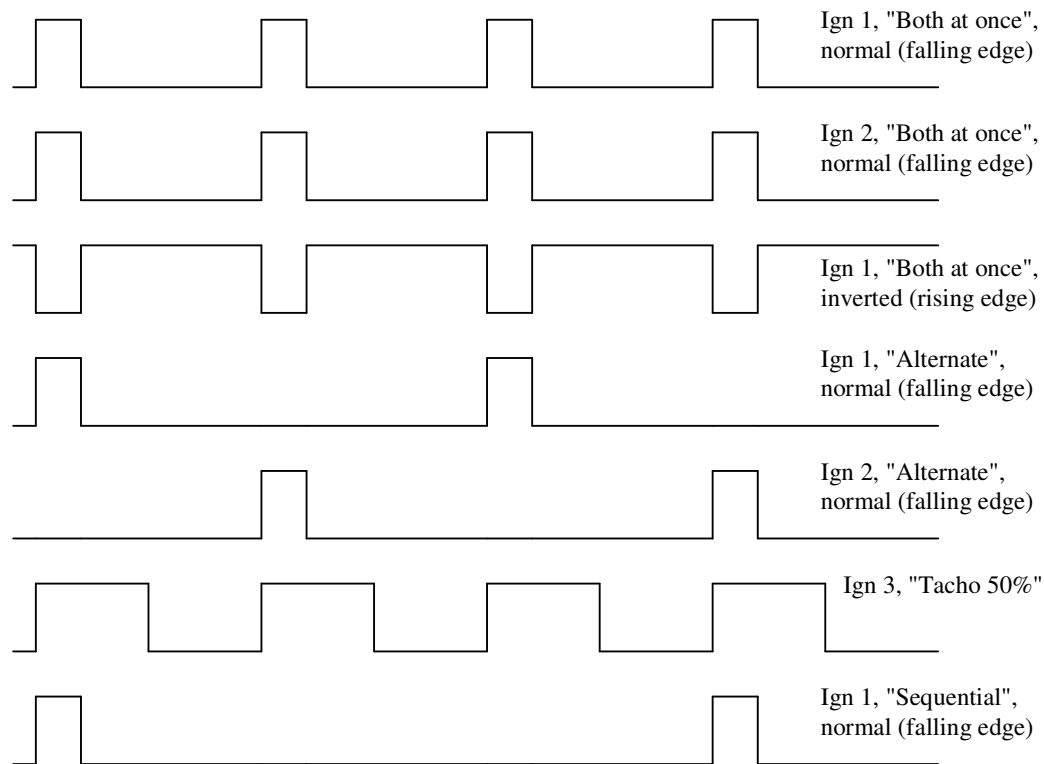

Figure 13: Ignition Waveforms in Different Modes
Because the ECU can accept a channel specifically to fire the ignition during cranking, one can connect a timing light to the ignition output from the coil, and select each input (which has been connected, see Figure 13) in turn, crank the engine and determine the angle at which the pulse occurs. For each connected channel in turn:
3. Deselect all the boxes in this channel, and select "Ign Crank" (see Figure 13).